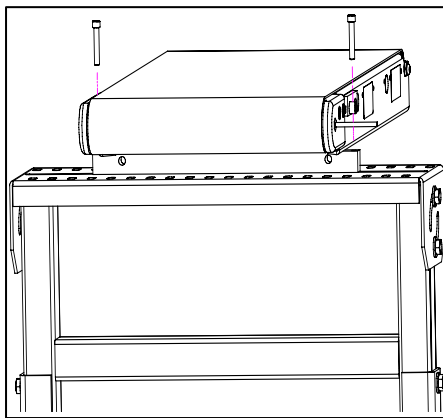

Figure 2
- Secure the Bottom Mount to the top plate of the Steel Stand or mounting surface using the 1/4-20 Socket Head Cap Screws, Washers, and Hex Nuts provided (**Figure 2**).